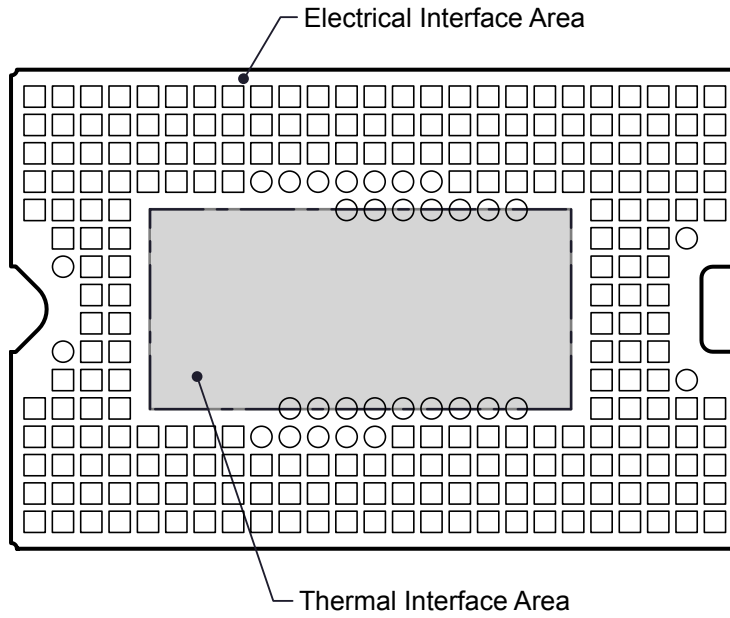

Figure 6-13. System Mounting Interface Loads
(1) The load should be uniformly applied within the area shown in Figure 6-13.